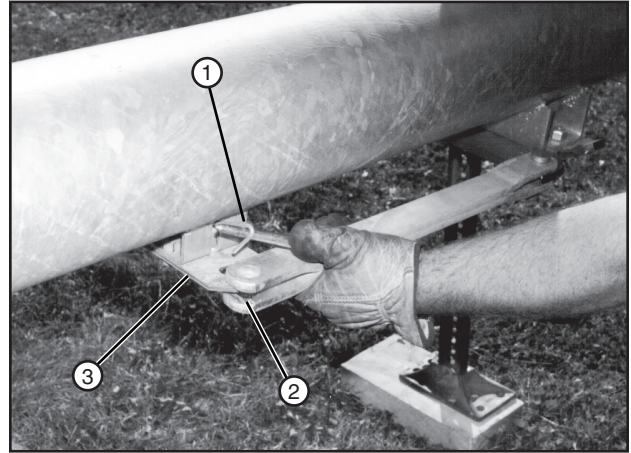

Figure 83-1 1. Carrier Spring 2. Tow Link Bar 3. Tow Link Carrier
1. Lift the carrier spring and release the tow link bar from the tow link carrier. See figure 83-1.